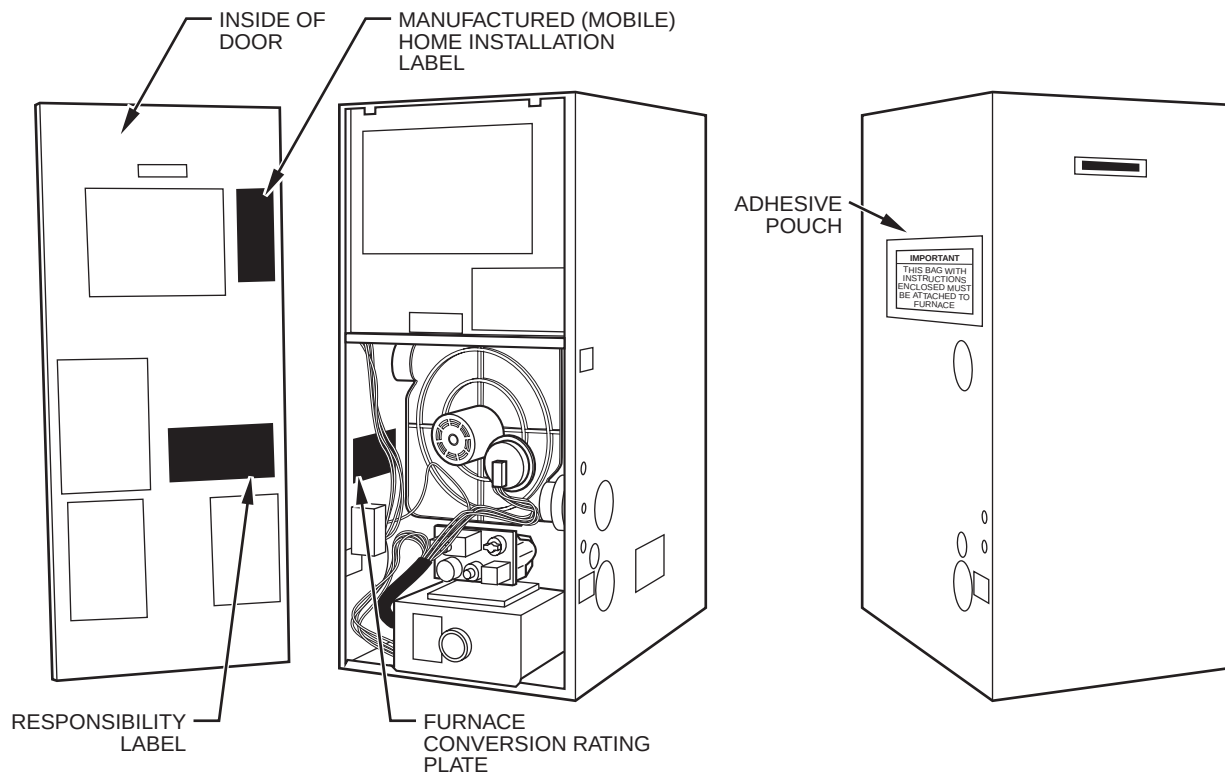

Fig. 6—Furnace Component and Conversion Label Location in Downflow Orientation
- 1. Attach Conversion Responsibility Label (331102-101) inside of main furnace door. Date, name, and address of organization making this conversion are required. (See Fig. 6.)
- 2. Attach Conversion Rating Plate Label (331103-101) inside of lower left-hand side of controls compartment (downflow) as shown in Fig. 6.
3. Attach Manufactured (Mobile) Home Installation Label (322236-101) inside of main furnace door. (See Fig. 6.)